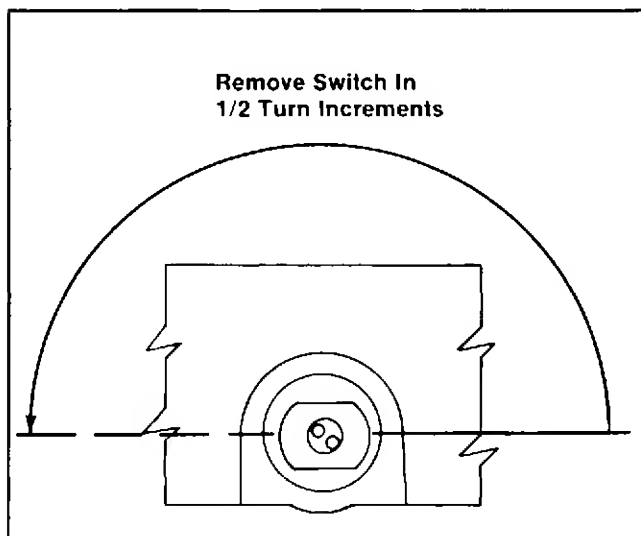

Figure 8-13. Float Switch Removal.
5. Turn the switch counterclockwise in 1/2 TURN INCREMENTS using a smooth, continuous action. Pause briefly between increments and keep the flat surface of float switch in a horizontal position (parallel with base of oil pan). Refer to Figure 8-13.